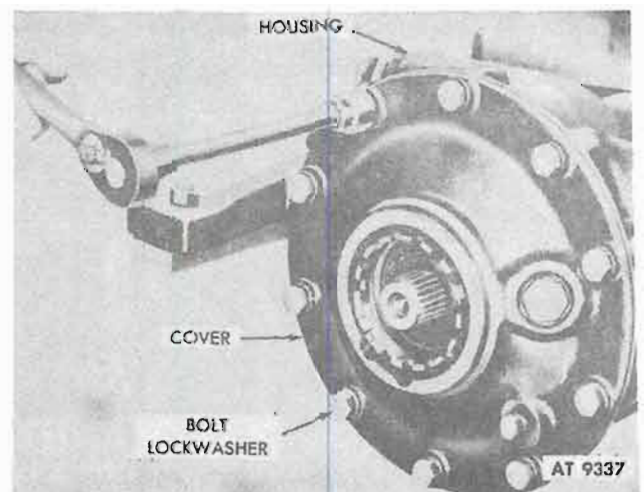

Figure 12-6. Housing Cover Plate Retaining Bolts and Lockwashers.
g. Remove ten housing cover plate bolts and lockwashers retaining cover to housing (fig. 12-6).
Page 12-4. Figure 12-6 is superseded as follows:
h. Install cover and bearing cups. Refer to figure 12-6.
i. Remove differential cover, do not disturb mark, refer to figure 12-6.
d. Torque differential cover bolts to 25-30 lb-ft. Refer to figure 12-6.
k. Remove housing cover bolts. Refer to figure 12-6.
h. Install ten housing cover retaining bolts. Refer to figure 12-6.